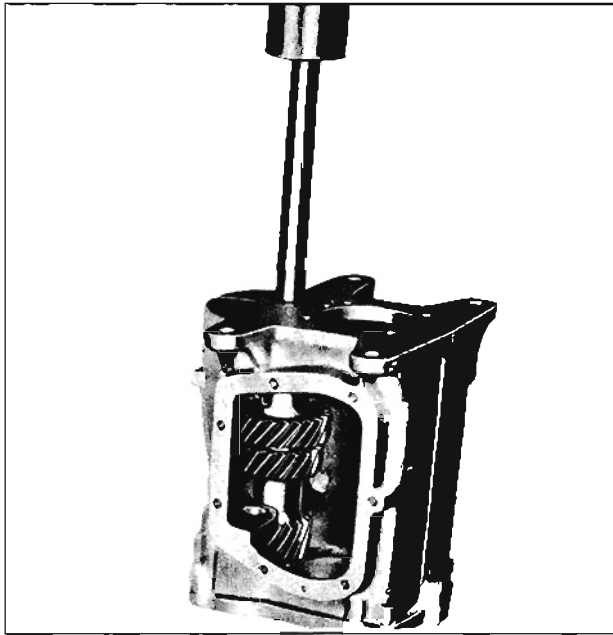

Fig. 7-211 Removing Countershaft with J-21629
13. From the front of the case, press out the countershaft (Fig. 7-211) using Tool J-21629; then remove the countergear and both tanged washers.